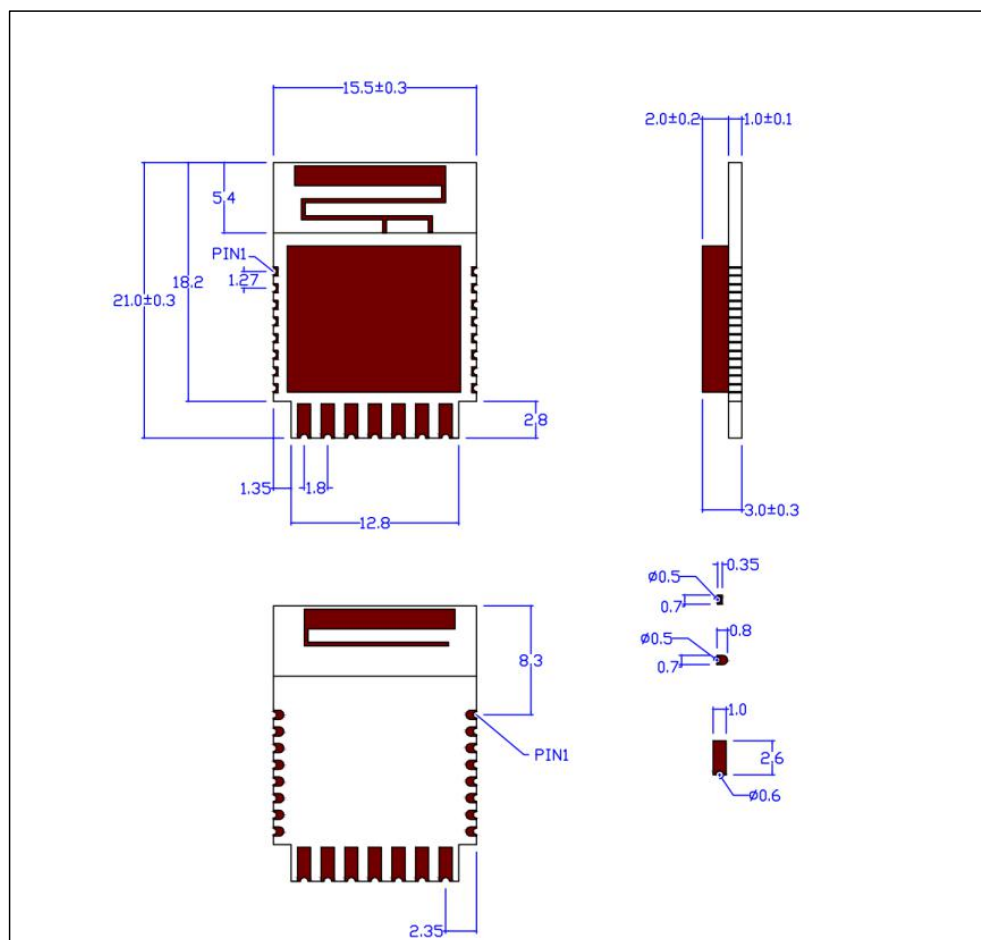

Figure 3. X-C13SG Physical Dimensions
- Average (AP): 70mA
- Size: Figure 3
| FIGURE 3. SUGGESTED MODULE PLACEMENT REGION..... | 9  |